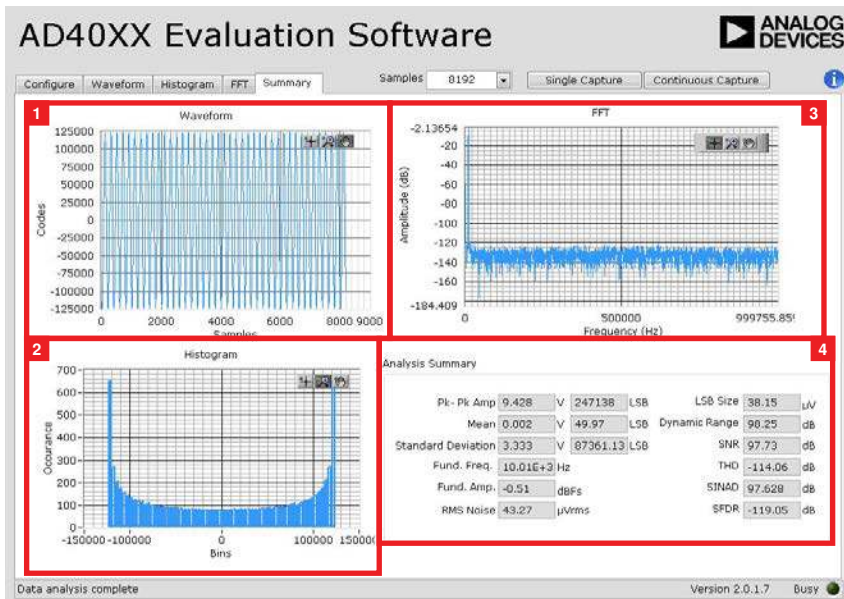

Figure 22. AD40XX Evaluation Software **Summary** Tab View
Figure 22 shows the **Summary** tab view. The **Summary** tab simultaneously displays the waveform, histogram, and FFT graphs and analysis for the AD4000 family device conversion results on the screen. The **Summary** tab contains the following controls and indicators:
- **Waveform graph** (Label 1 in Figure 22): displays the time domain plot of the most recently captured or loaded conversion results. The scale and range of the waveform graph can be set by double-clicking on the minimum and maximum axis values along the x-axis and y-axis and entering the desired values. The waveform graph also includes viewing tools that are described in Table 5.
- **Histogram graph** (Label 2 in Figure 22): displays the histogram of the most recently captured or loaded conversion results. The scale and range of the histogram graph can be set by double-clicking on the minimum and maximum values along the x-axis and y-axis and entering the desired values. The histogram graph also includes viewing tools that are described in Table 5.
- **FFT graph** (Label 3 in Figure 22): displays an FFT of the most recently captured or loaded conversion results. The scale and range of the FFT graph can be set by double-clicking on the minimum and maximum axis values and entering the desired values. The FFT graph also includes viewing tools that are described in Table 5.
- **Analysis Summary** (Label 4 in Figure 22): shows the following analysis items for the currently displayed data.